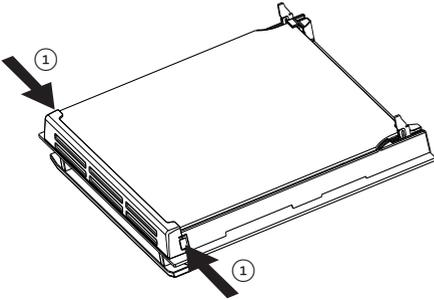

Fig. 5.9
- Touch the glass retainer tabs in on both sides of the door and remove the glass retainer (figs. 5.9, 5.10).